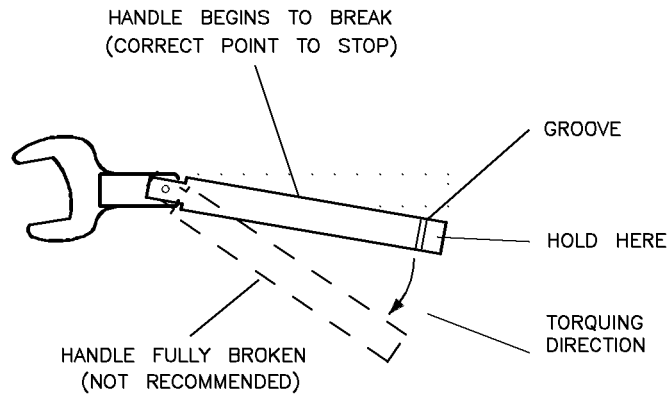

Figure 4-13. Using the Torque Wrench
3. Hold the torque wrench lightly, at the end of the handle only (beyond the groove). (see Figure 4-13).
5. Tighten the connection just to the torque wrench “break” point (see Figure 4-13). Do *not* tighten the connection further.